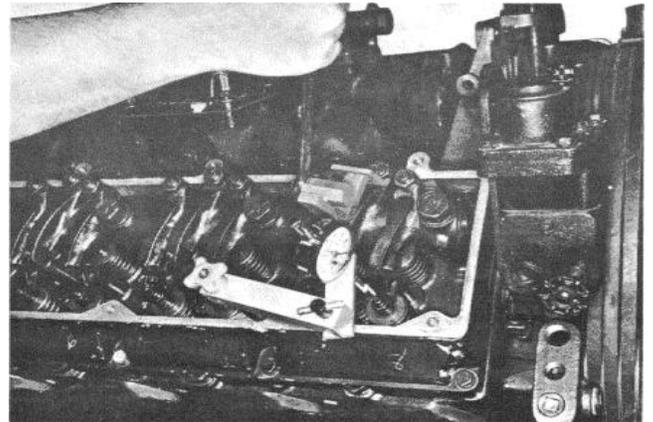

Fig 2-39, (V514128). Bottoming injector plunger in cup - V-903
4. Using ST-1251 Rocker Lever Actuator, bottom the injector plunger, check the zero (0) setting. Fig. 2-39. Allow the plunger to rise slowly, the indicator must show the plunger travel to be within the range specified in Table 2-10.